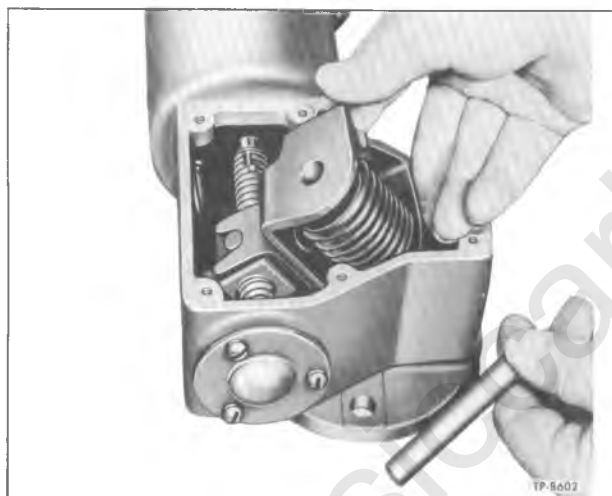
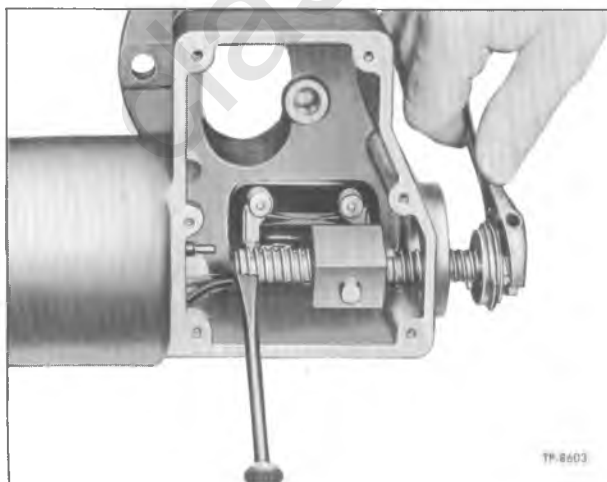

Figure 13—Removing Shaft, Actuating Lever, and Spring
Figure 14—Removing Drive Screw Bearing
4. Remove shift fork actuating lever (22), torsion spring (23), and spring winding lever (24) as an assembly by pulling shaft (21) up. Swing the assembly away from the drive nut and lift out of the housing (fig. 13).
5. Remove three screws and lock washers (16) which attach bearing cover (15). Remove cover and gasket (14).
6. Push down on drive screw assembly (20) until bearing assembly (12) is free of housing.
7. Insert screwdriver in drive slot of screw (fig. 14), then remove bearing lock nut (13) and bearing with snap ring (12). Drive screw assembly (20) can then be lifted out of housing.
2. Push down on drive screw assembly (20) until bearing assembly (12) is free of housing.
3. Insert screwdriver in drive slot of screw (fig. 14); then remove bearing lock nut (13) and bearing with snap ring (12). Drive screw assembly (20) can then be lifted out housing.